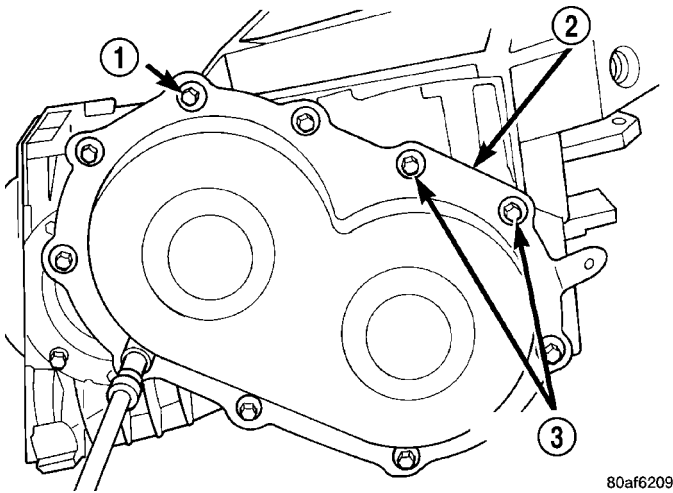

Fig. 50 Remove Rear Cover Bolts
(35) Remove transfer gear cover-to-case bolts (Fig. 50).